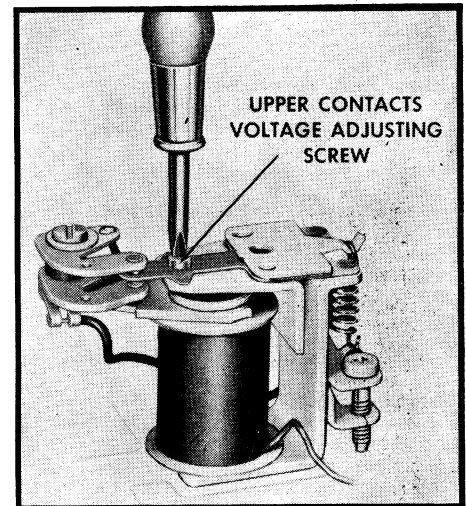

Fig. 49 Adjusting voltage setting of upper contacts
6. Increase the resistance slowly until the regulator begins to operate on the upper contacts. The voltmeter should indicate a slight drop in voltage of .3 to .5 volts. This differential voltage may be increased by turning the air gap adjusting screw, Fig. 49, in a clockwise direction and decreased by turning it counterclockwise. Air gap adjustment should seldom be necessary on this type regulator. However, if the adjustment screw is turned, it will also affect the setting of the regulator so that the voltage adjustment procedure must be repeated. The regulator must be cycled each time before taking voltage readings—as previously described.